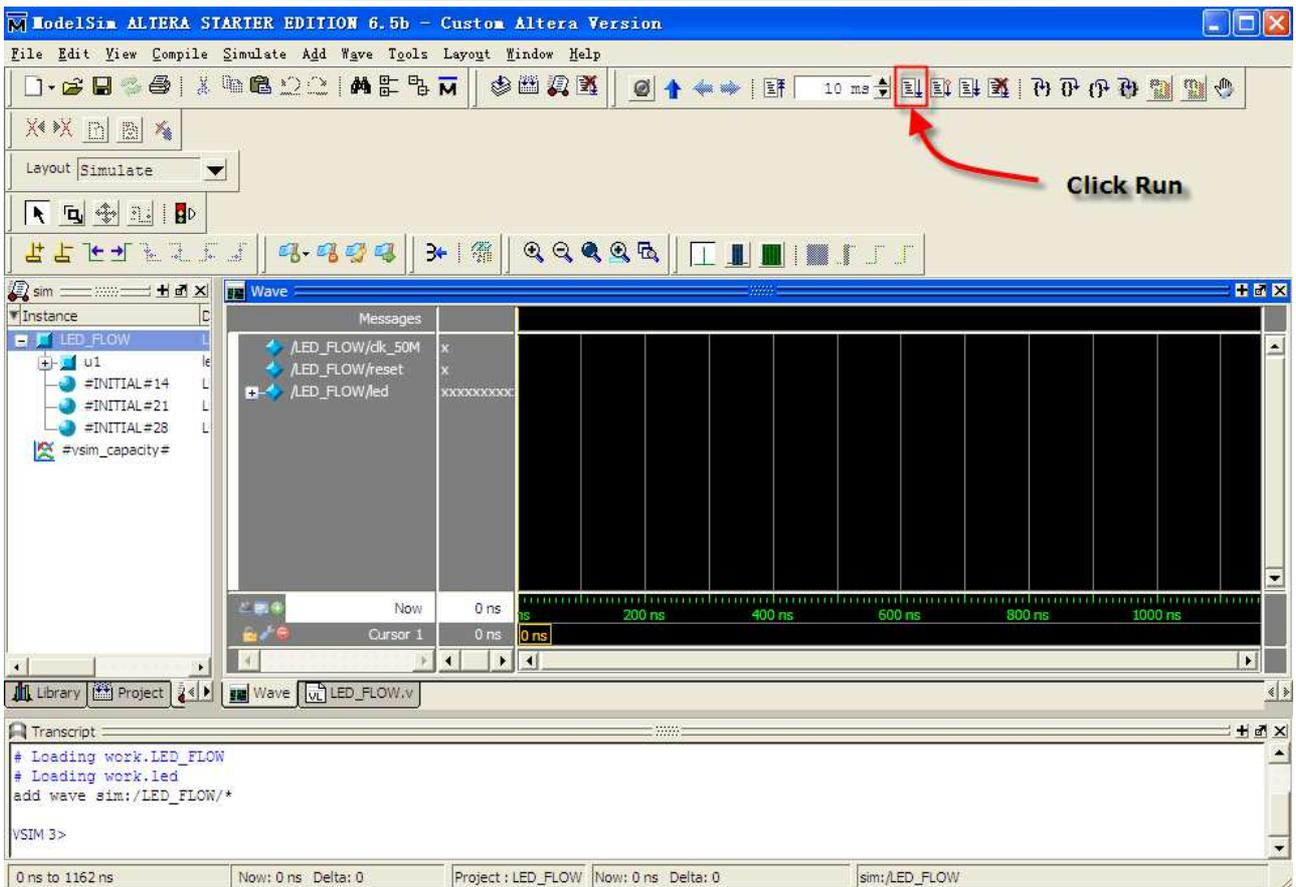

Figure 3.6 Run the Simulation
7. Click on the **Run** button, which is pointed by a red arrow, shown in Figure 3.6.